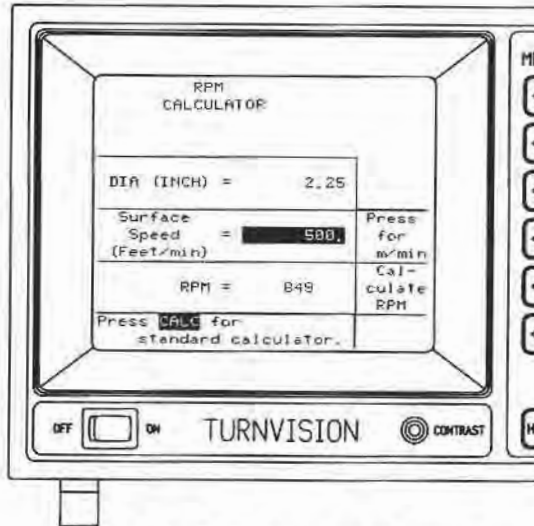

Figure 31. RPM Calculator Screen.
- 4) Use the down arrow key to highlight the value for "Surface Speed in Meters per Minute" (SMM) (Figure 31).